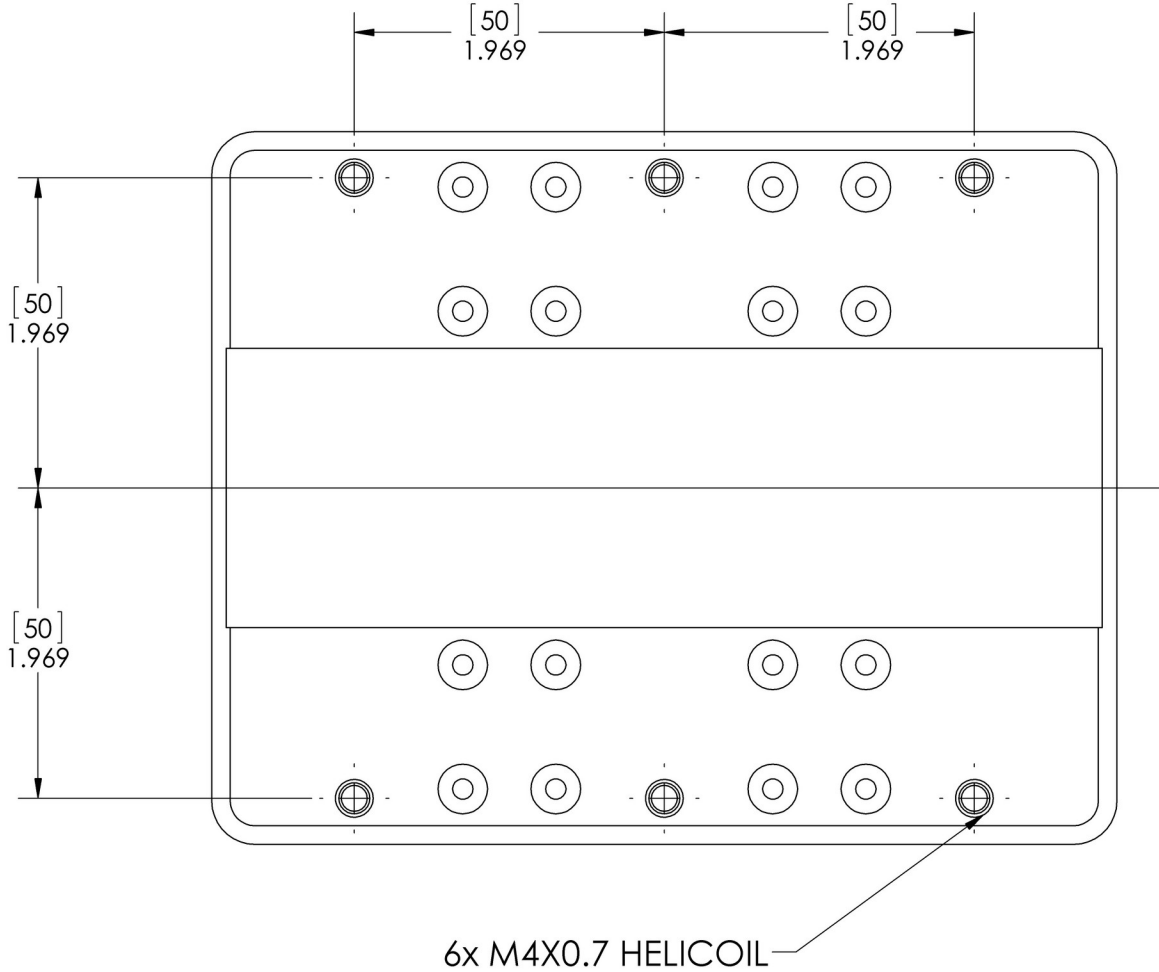

Figure 1: Carriage bolt hole pattern
The bolt pattern on the Carriage has been designed to facilitate process equipment installation. The Carriage has (6) six M4x0.7 mounting holes with a depth of 0.26 inch (6.5 mm) to provide secure attachment points. The mounting holes are spaced 100mm across and on 50mm centers along the length of the Carriage. (See Figure 1)